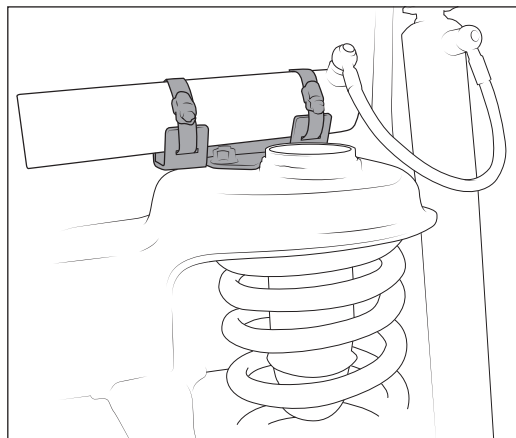

Figure 27
- D. If using remote reservoir shocks, use the supplied hose clamps to secure the reservoir portion of the shock into the bracket. CLAMP ROTATION IS CRITICAL, pay attention to prevent contact with the washer bottle (Fig. 27).